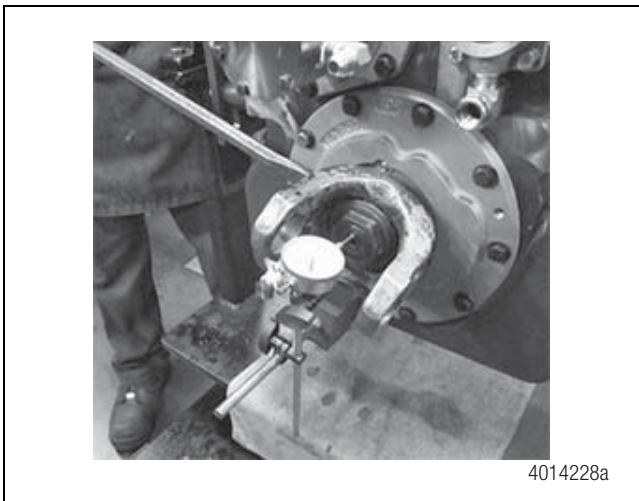

Figure 6.39
9. Rotate transfer case over such that its shafts are horizontal. Mount a dial indicator on the shaft as shown in Figure 6.39. Pry the rear output shaft up and down several times to be sure that the front bearing cup is seated. Note the indicated shaft end float on the dial indicator. If the end float is not within specification (0.002 to 0.004 in.), the shim pack should be removed and replaced with a combination of shims which will provide the specified end float. Be sure to recheck the end float after replacing with new shims.